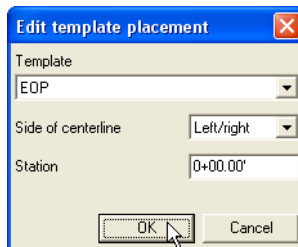

Figure 6-13. Apply Template to Centerline
2. Select the *Template*, the *Side of centerline to apply it to*, and the *Station* to start at. Then click **OK** (Figure 6-13).